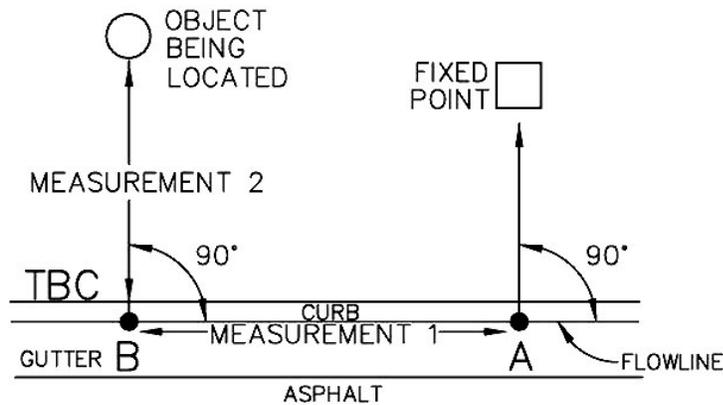

Figure 1-A
- 1. Tie-Down Method (projects without curb and gutter): A minimum of two (2) tie-down distances shall be given from permanent ground features to the end of each stubout. Permanent ground features shall include, but not limited to, fire hydrants, valve boxes, manhole covers, electrical transformers, etc. A table of information shall be created to minimize clutter on the “as-built” drawings.
- 2. Flowline Method (projects with curb and gutter): This method uses a distance along the flowline of the street gutter from a point perpendicular to a permanent ground feature to the location where the service stubout crosses under the curb and gutter and a distance from back of curb to the end of the constructed service line. A table of information shall be created to minimize clutter on the “as-built” drawings. (Refer to Figure 1-A)
- E. The exact end locations of water or sewer main installations provided for future main extensions shall be identified with a minimum of three (3) tie-down dimensions to permanent surface features. “As-builts” shall include a description of water and sewer main endings planned for future extension. Said description shall include all information needed to design and prepare for an extension, including at least: depth to main invert, pipe type and size, type of anchorage, and type of pipe cap or plug.